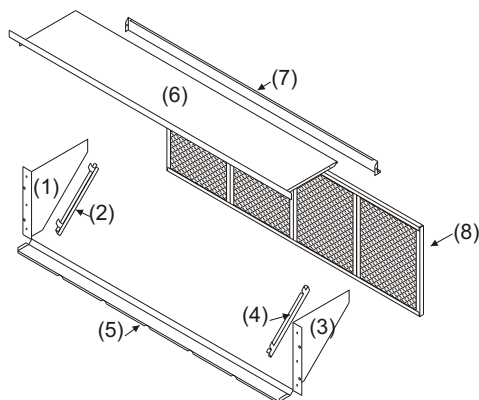

Figure 6
7. Assemble the fresh air hood: (See Figure 6 and 7)
- Attach filter rack guides (2) and (4) to (1) and (3) using screws provided.
- Attach (5) to the inside flanges of (1) and (3) using screws provided.
- Attach (6) over flanges of (1) and (3) using screws provided.
- Slide filter in the hood using filter rack guides (2) and (4).
- Attach (7) to (1) and (3) using screws provided.